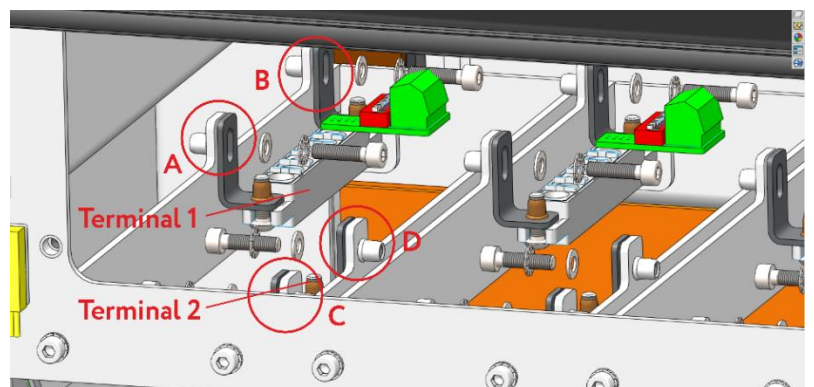

Figure 5.18. Connecting modules
10. Remove the fasteners at locations A, B, C, D. Install the module in the cell according to the marking and connect terminals 1 and 2 to the module (fig. 5.18).